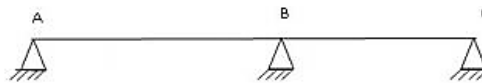

Fig.1
- (ii) What is the degree of static indeterminacy of the beam shown in Fig.1 , if the axial deformation is ignored?